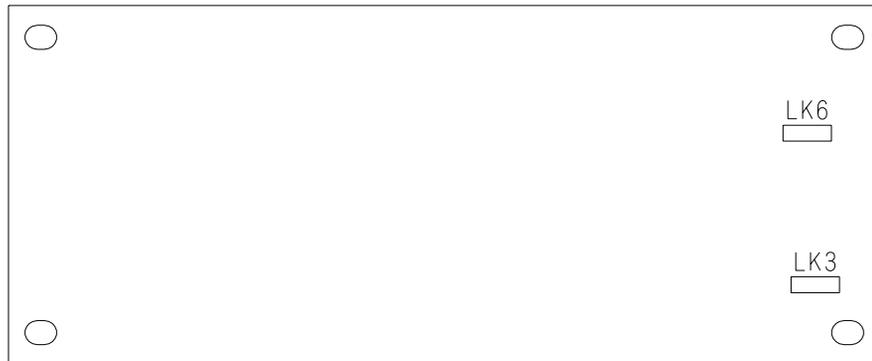

Figure D-3: PAD Daughter Board
3. Verify and set the jumpers on the CPU and daughter boards as shown in Table D-1. You may need to remove the daughter board temporarily to access the jumpers. Refer to Figure D-3.